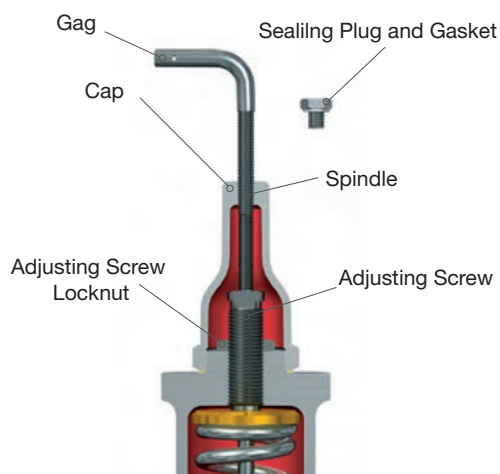

Figure 38: Hydrostatic Testing
When hydrostatic tests are required after installation of an SRV, remove the SRV and replace it with a blind flange. If the hydrostatic test pressure will not be greater than the operating pressure of the equipment, a test gag may be used. Very little force, i.e., hand-tight pressure, on the test gag is sufficient to hold hydrostatic pressures. Too much force applied to the gag may bend the spindle (15) and damage the seat. After a hydrostatic test, the gag must be removed and replaced by the sealing plug furnished for this purpose (see Figure 38). (Test gags for Consolidated SRVs can be furnished for all types of caps and lifting gears.)